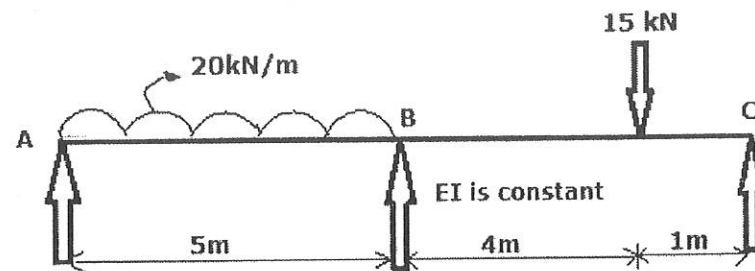

Figure 14 (a)
14. (a) Using the theorem of three moments, analyze the continuous beam as shown in figure 14 (a) below and draw the shear force and bending moment diagrams.